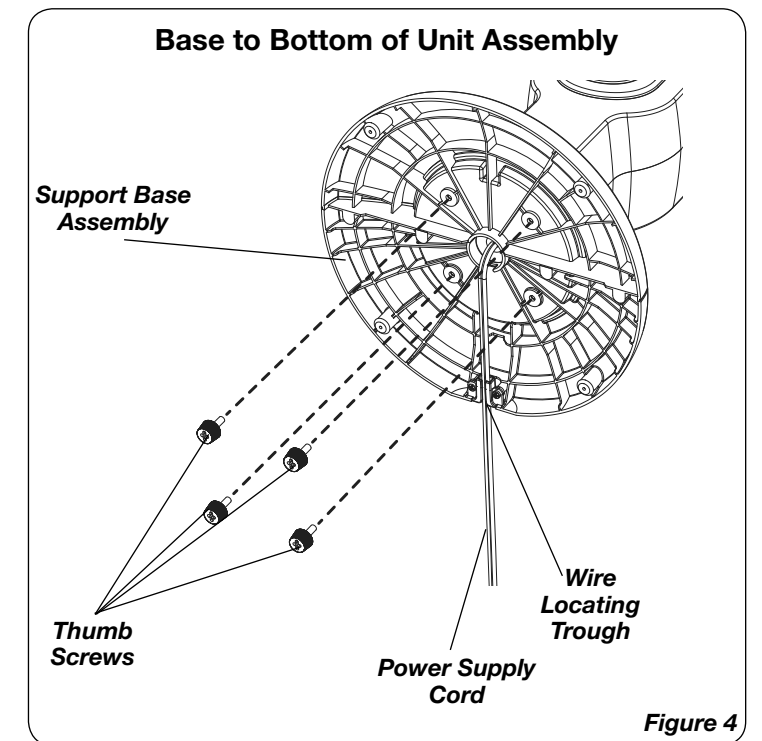

Figure 4
5. Secure the **Support Base Assembly** to the bottom of the Fan with (4) **thumb Screws**. Gently pull any excess slack of the **Power Supply Cord** and place it in the **Wire Locating Trough**. (Figure 4)